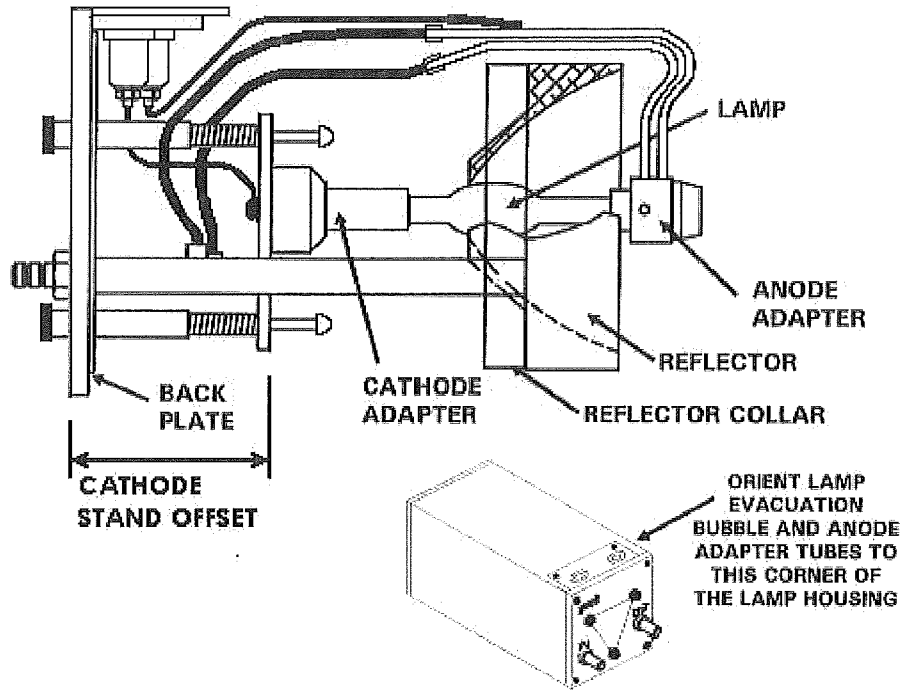

Figure 6 - Internal View, Lamp Housing
7. Insert the lamp assembly into the housing, ensuring that the anode adapter faces the insulated inside corner (upper right hand corner when viewed from the back plate) of the housing (see figure 6). Tighten the six crosshead back plate screws securely.
The cathode adapter stand should be checked for proper coarse adjustment. Using an accurate caliper, adjust the distance between the outer surfaces of the cathode adapter stand and the lamp housing backplate (see figure 6), according to the table below.